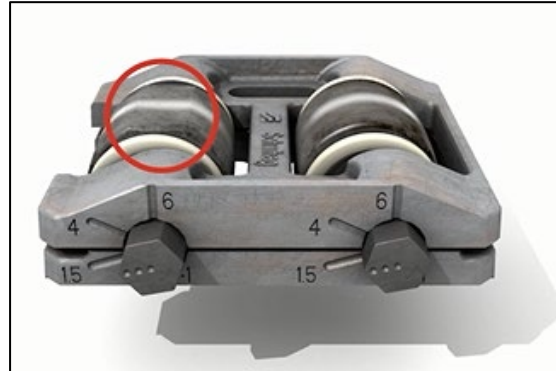

Figure 3 – Check for movement and flat spots
2.3 Check that the rollers can move freely and that no flat spots are present on the roller barrels (see figure 3).